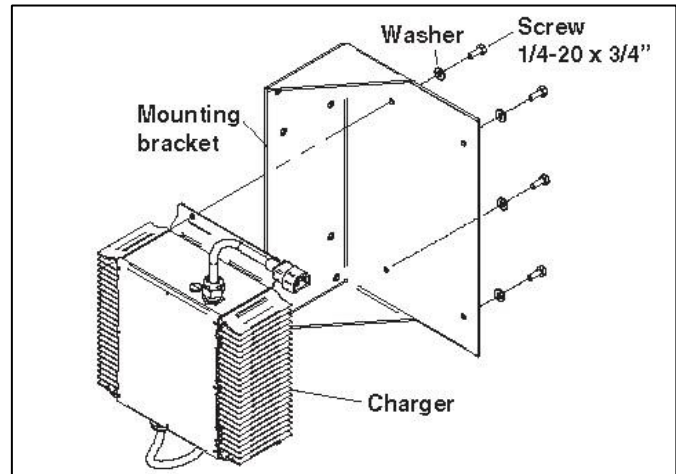

Figure 9-5
2. Remove four nuts, four washers, four bolts and charger. See Figure 9-5.